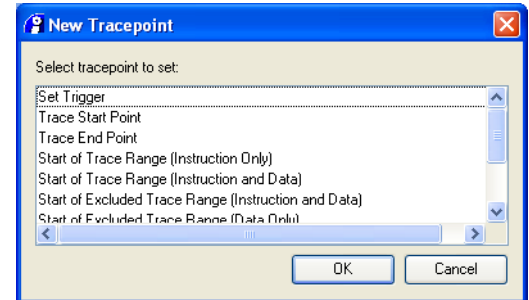

Figure 6-4 New Tracepoint dialog box
2. Select **Insert Tracepoint...** from the context menu to open the New Tracepoint dialog box. Figure 6-4 shows an example: